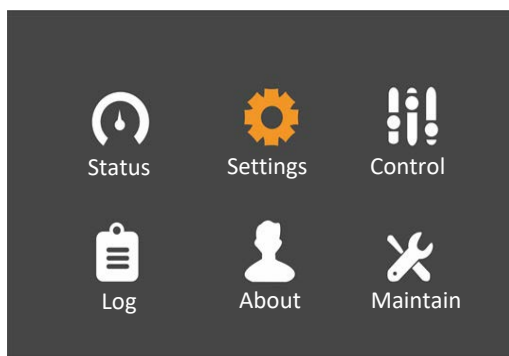

Figure 5-14 Main menu screen
1. At the main menu screen, press the or key to switch the cursor to select 'Settings', then press the key to confirm it. See Figure 5-14.